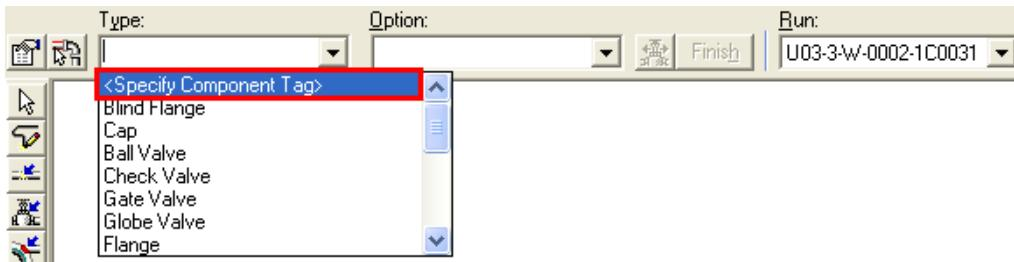

Figure 34: Specify Component Tag on Insert Component Ribbon
1. To place the piping specialty item silencer on the flange, select the **Specify Component Tag** from the Type drop-down list on the **Insert Component** ribbon as shown in Figure 34.